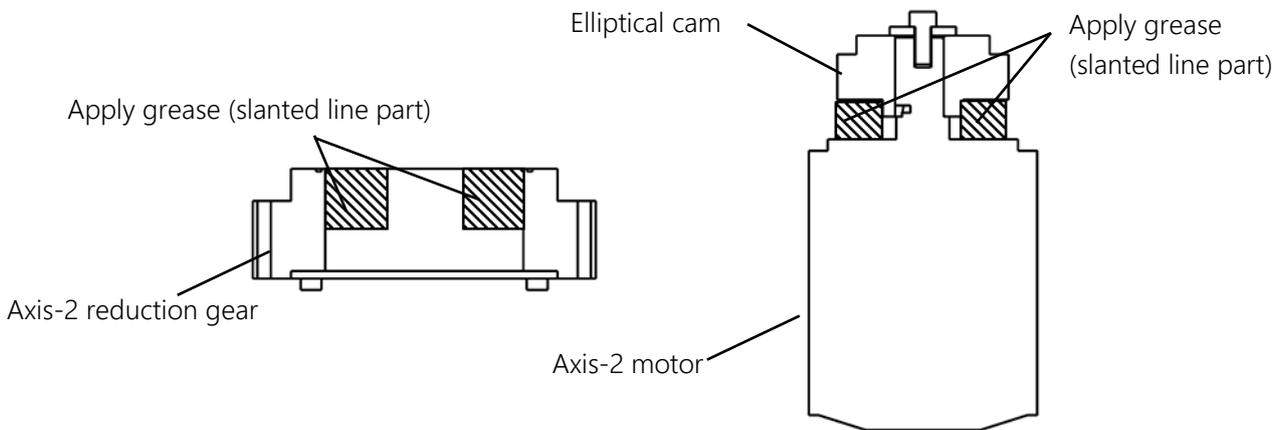

Fig. 7.52 Applying Grease to Axis-2 Reduction Gear
6) Fig. 7.52. Similarly, apply grease to the axis-2 motor side as well.